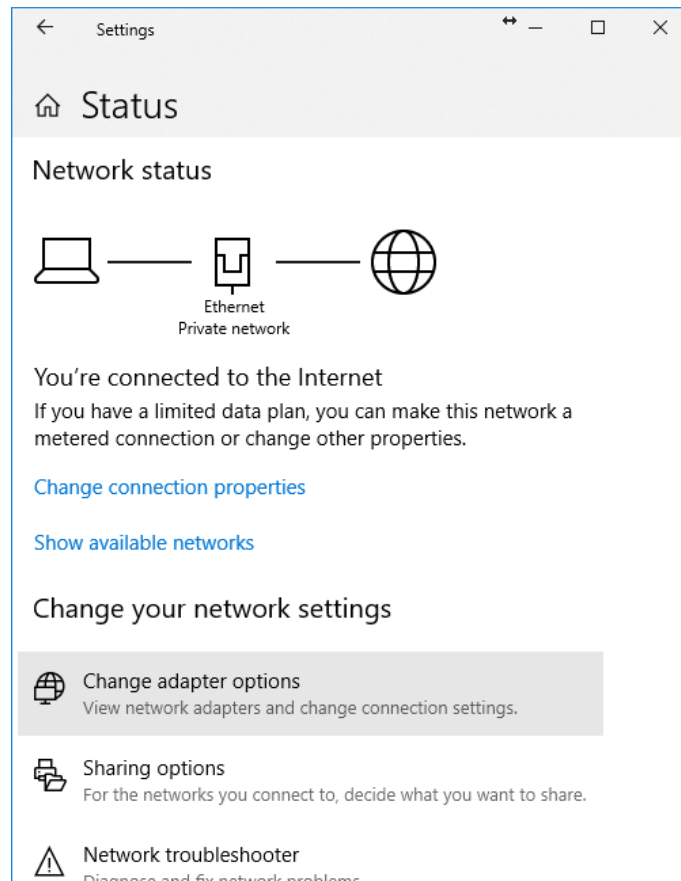
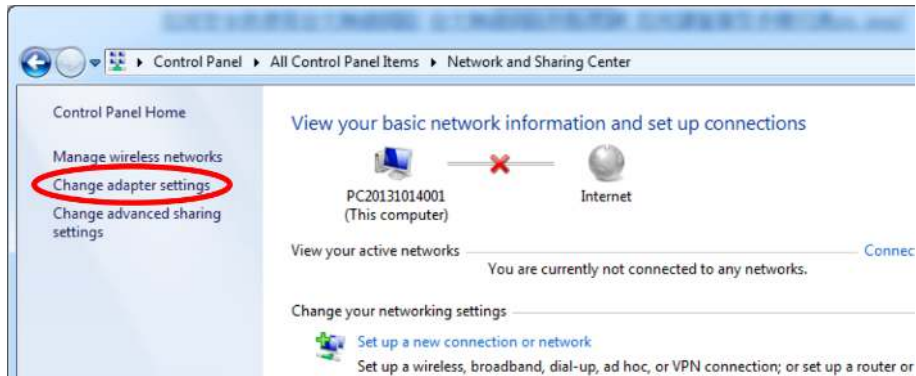

Figure 10: Change adapter options (Windows 10)
Figure 11: Change adapter settings (Windows 7)
2. Then click on “Change adapter options” (see Fig. 10) in Windows 10 or on “Change adapter settings” (see Fig. 11) in Windows 7.